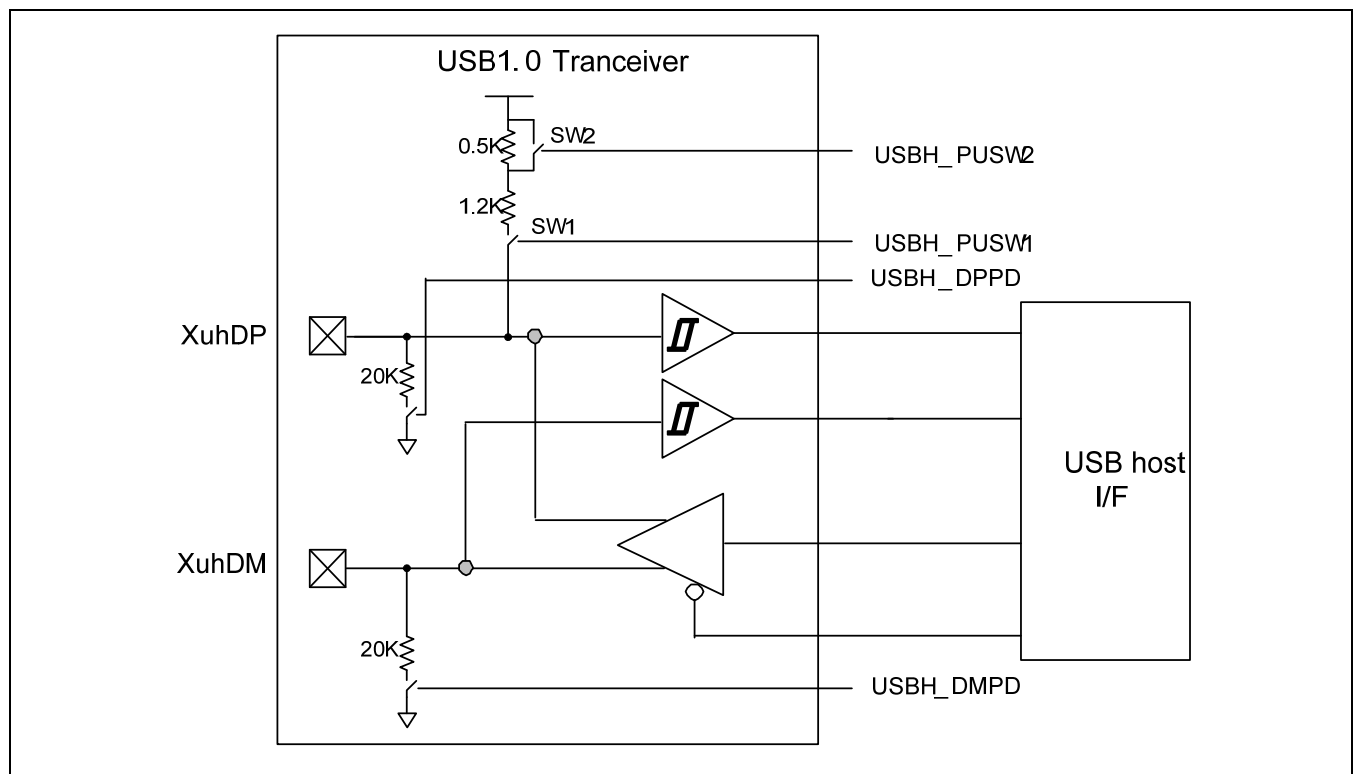

Figure 10-2. USB transceiver block diagram
1. Pull-up resistance is 1.2kohm. Refer to figure 10-2.
2. Pull-up resistance is 0.5kohm. Refer to figure 10-2.
3. Pull-down resistance is 20kohm. Refer to figure 10-2.